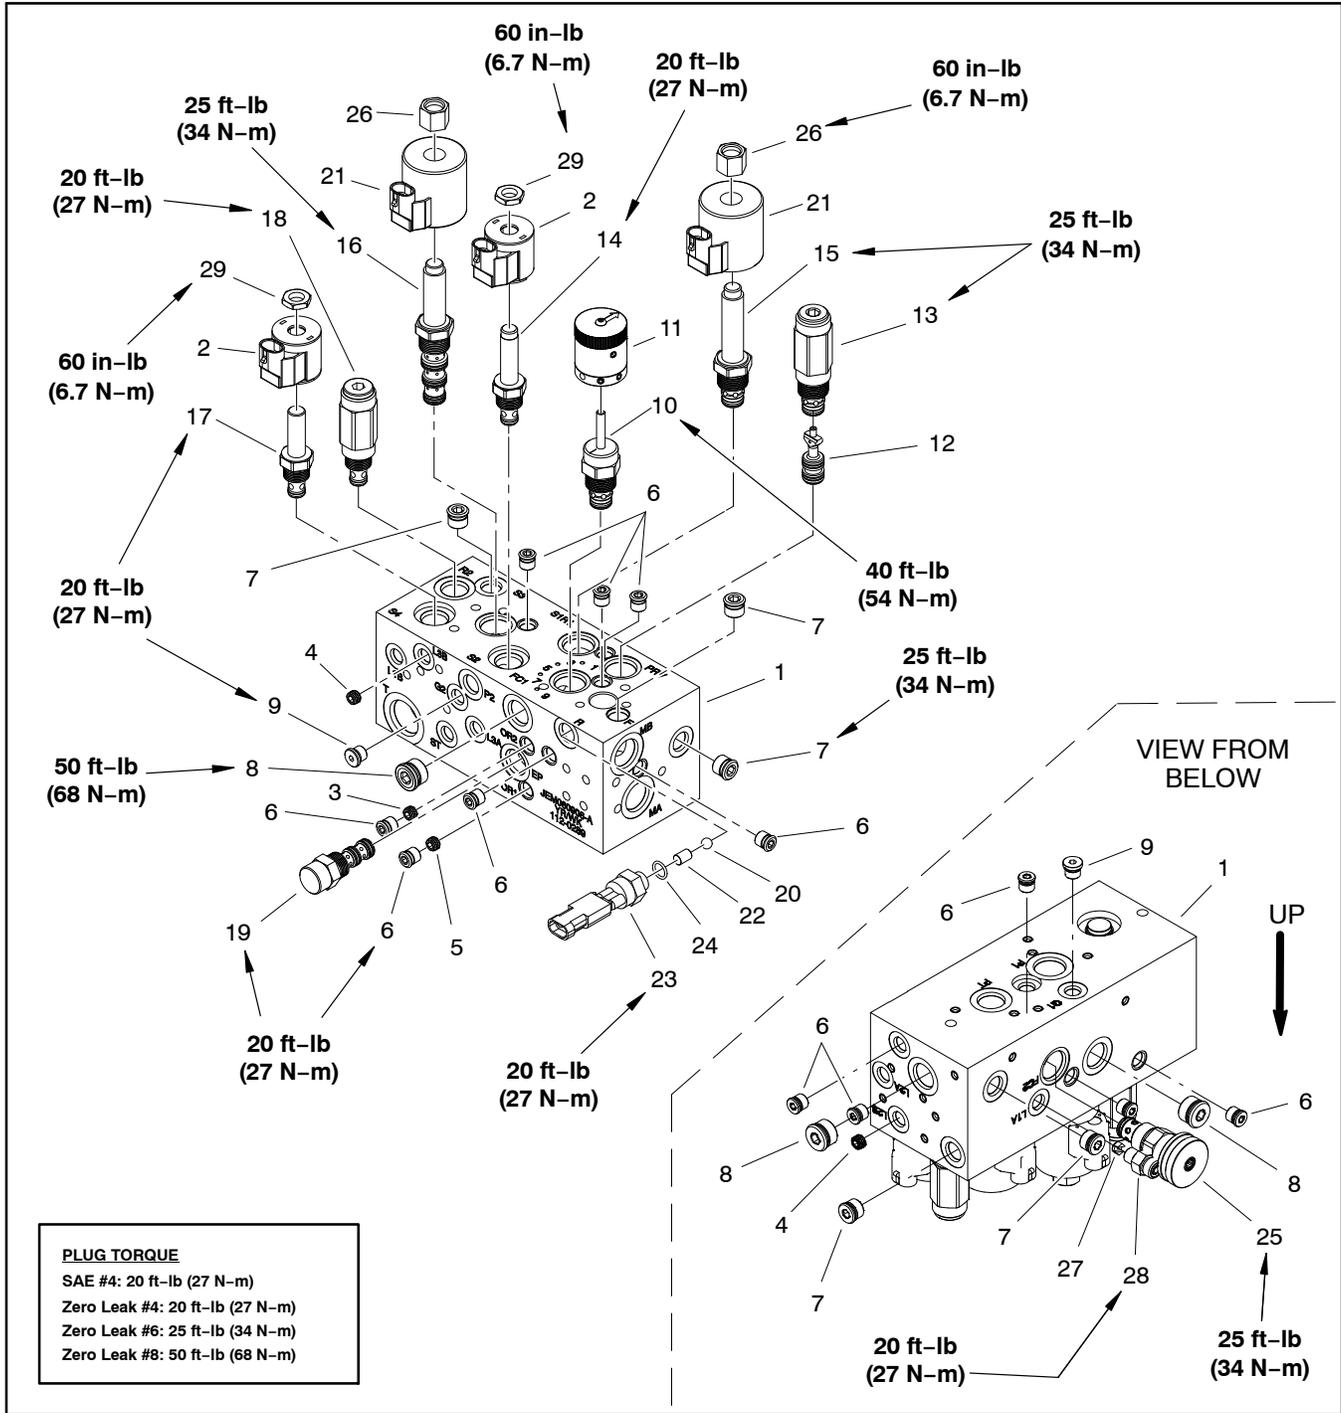

Figure 67
NOTE: The hydraulic manifold shown in Figure 67 uses several zero leak plugs. These plugs have a tapered sealing surface on the plug head that is designed to resist vibration induced plug loosening. The zero leak plugs also have an O-ring to provide a secondary seal. If zero leak plug removal is necessary, lightly rap the plug head using a punch and hammer before using an allen wrench to remove the plug: the impact will allow plug removal with less chance of damage to the socket head of the plug. When installing plugs into the manifold, torque plugs to the values identified in Figure 67.
Solenoid Operated, Relief and Logic Control Cartridge Valves (Fig. 67)
- C. Torque cartridge valve using a deep well socket to specification shown in Figure 67.
B. Lubricate threads on cartridge valve with clean hydraulic oil. Thread rotary cartridge valve carefully into the manifold port. The valve should go in easily without binding. Torque valve to specification shown in Figure 67.